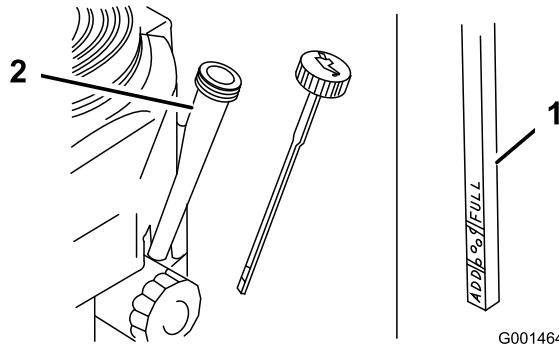

Figure 28
5. Unscrew the oil dipstick and wipe the end clean (Figure 28).
6. Slide the oil dipstick fully into the filler tube, but do not thread onto tube (Figure 28).
4. Clean around the oil dipstick (Figure 28) so that dirt cannot fall into the filler hole and damage the engine.
9. Slowly pour approximately 80% of the specified oil into the filler tube (Figure 28).